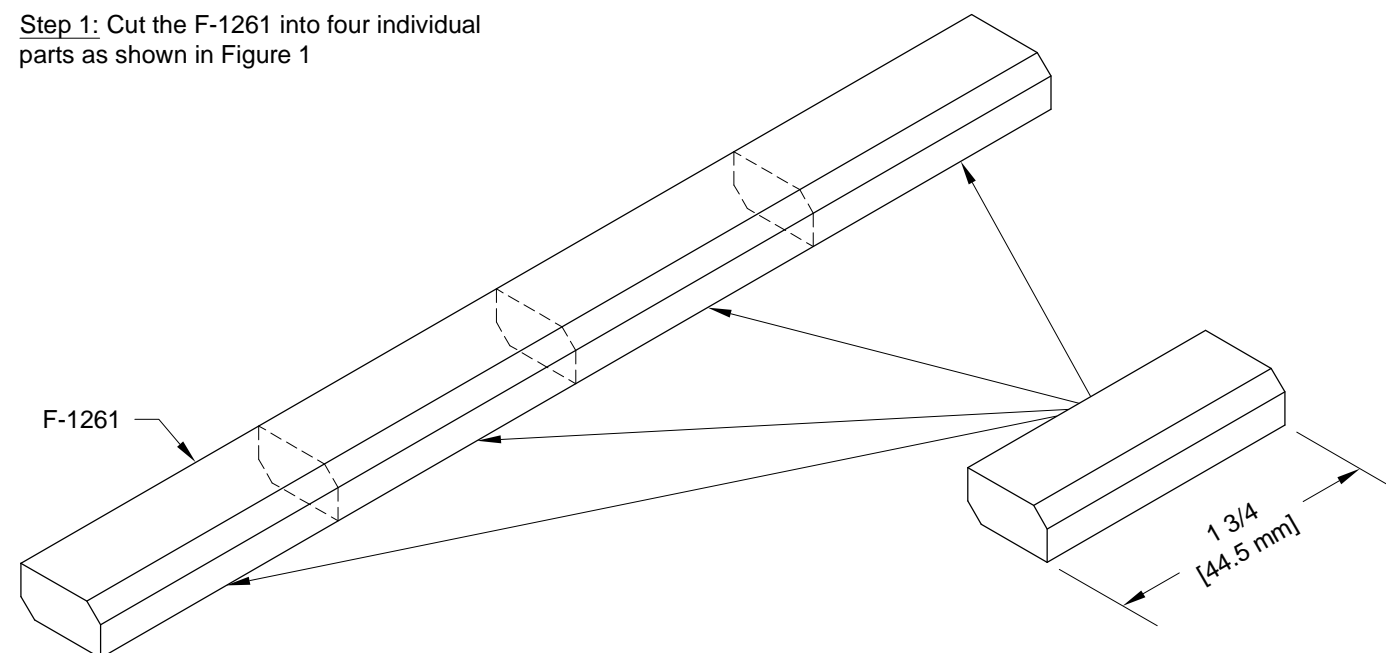

FIGURE 1: CUTTING THE F-1261 SPACER
Step 1: Cut the F-1261 into four individual parts as shown in Figure 1